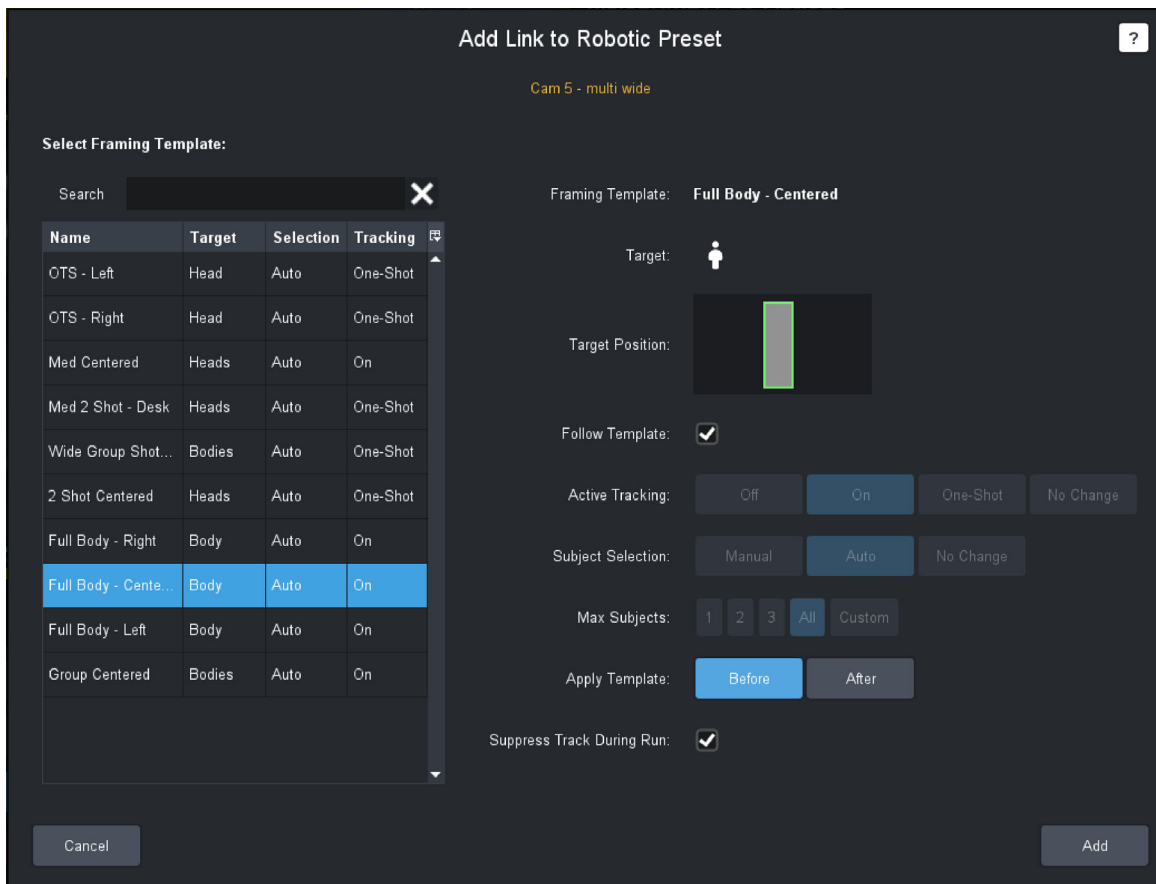

Figure 64 - The Add Link for Robotic Preset Dialog Box
- **Link Button** — Opens the **Add Link for Robotic Preset** dialog box or the **Edit Link for Robotic Preset** dialog box (Figure 64).